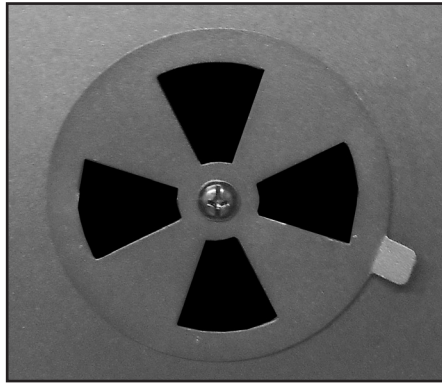

Figure 4
4. Install the two side dampers onto the smoker cabinet using two black bolts (one bolt on each damper). Bolts should thread toward inside of smoker (see Figure 4).
4. Insert a multipurpose lighter through the hole in the shroud as per **Figure 4**, or use a paperbook match placed above the casting as per **Figure 3**. Turn the regulator control toward the "ON" position until ignition occurs. Turning the regulator control clockwise increases the gas pressure to the burner and hence the flame size (**Figure 2**). When lighting the stove, if ignition does not occur in 3 to 5 seconds, turn the regulator and cylinder valve off. Wait 5 minutes for gas to disperse. Repeat procedure.